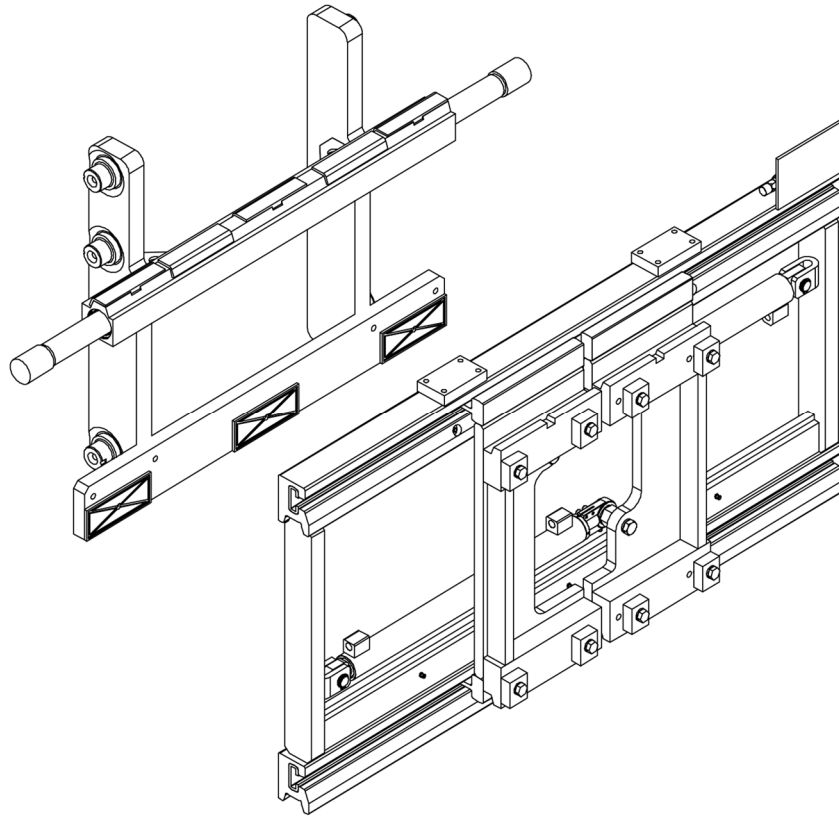

Figure 6
8. Reposition the rear structure (see *Figure 6*).